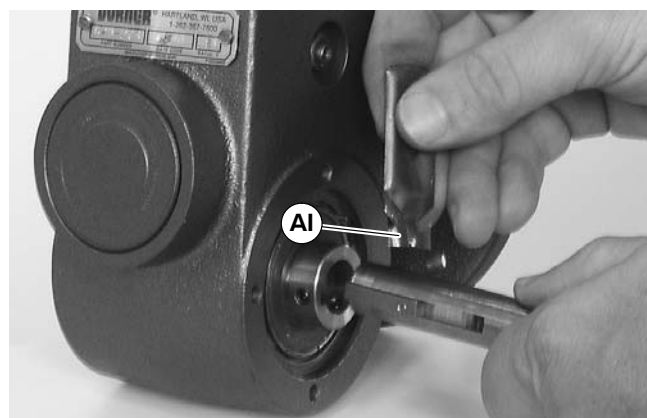

Figure 24
9. Apply grease (AI of Figure 24) to shaft.